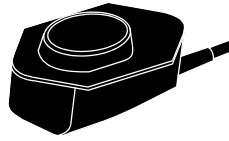

Figure 5-10 Pediatric Paddle (Bottom)
- 4 The pediatric paddle is now exposed and ready for use (refer to Figure 5-10).